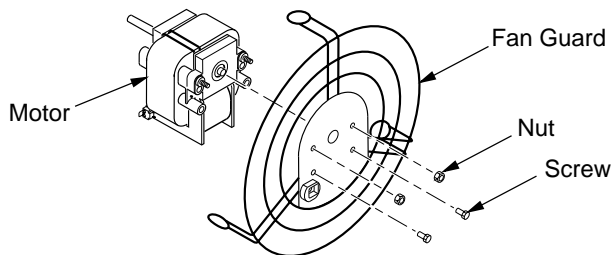

Figure 11 - Removing or Attaching Fan Guard from Motor
4. Remove two nuts and two screws that attach fan guard to motor using nut-driver. Remove fan guard from motor (see Figure 11, page 7).